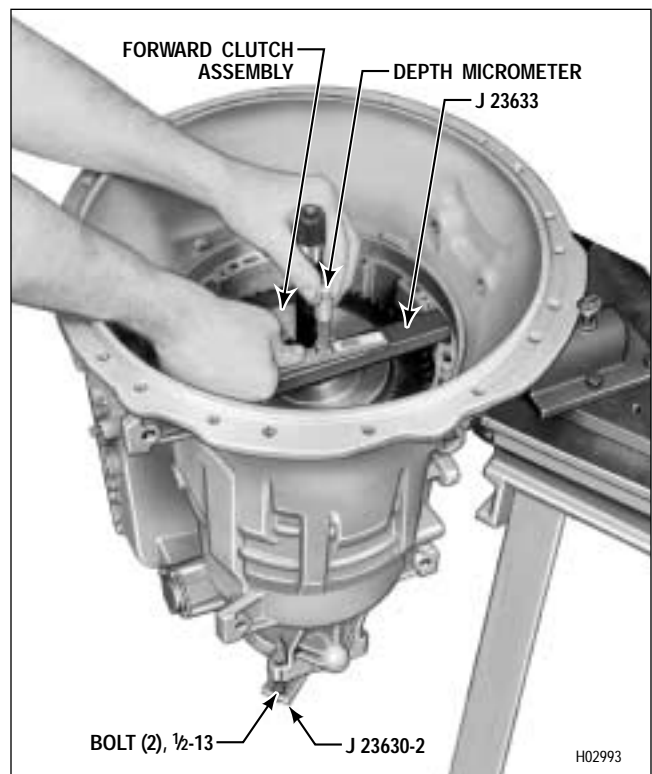

Figure 7-25. Measuring For Selection of Front Thrust Washer
(1) Lay thrust washer selection gauge bar J 23633 in the transmission housing (Figure 7-25). Place the depth micrometer so that its stem passes through the center hole in the gauge bar.
(2) Align the gauge bar so that the micrometer stem is above the thrust washer surface of the forward clutch housing (Figure 7-25).
(3) Measure the distance from the top of the gauge bar to the thrust surface of the clutch housing (Figure 7-25). Subtract 1.00 inch (25.4 mm) or the thickness of the gauge bar and record the difference. Select the proper thrust washer from the following table.